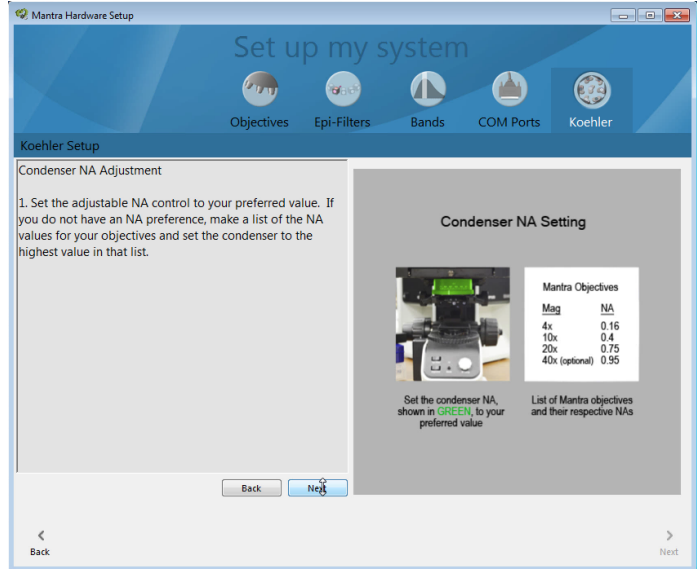

Figure 54. Step 3 of the Koehler alignment procedure requires you select an optimal condenser NA setting.
Step 3. Set the condenser numerical aperture (NA) to your preferred value (highlighted in green in Figure 54). If you do not have a preference, a list is provided of the NA values for your objectives. PerkinElmer recommends first trying the highest value in the list.